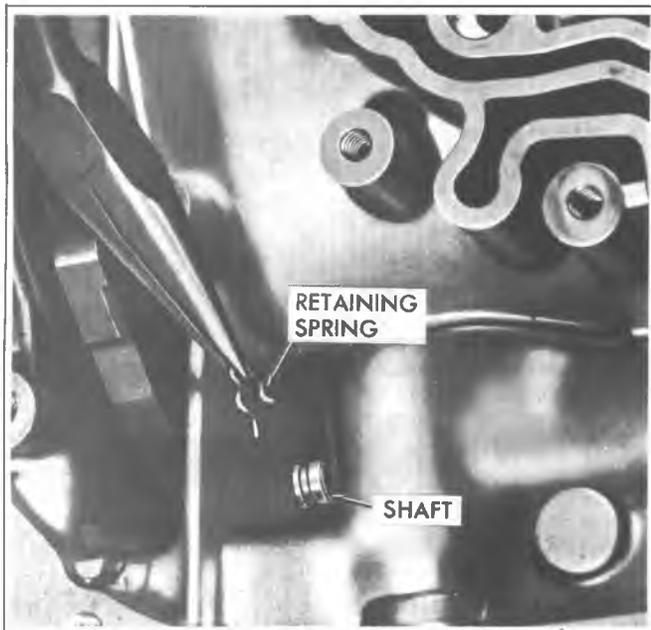

Fig. 7A-155C--Installing Parking Shaft Retaining Spring
3. Install parking pawl shaft cup plug and drive into the case, using a 3/8 dia. rod, until the parking pawl shaft bottoms on the case rib (Fig. 7A-154C).